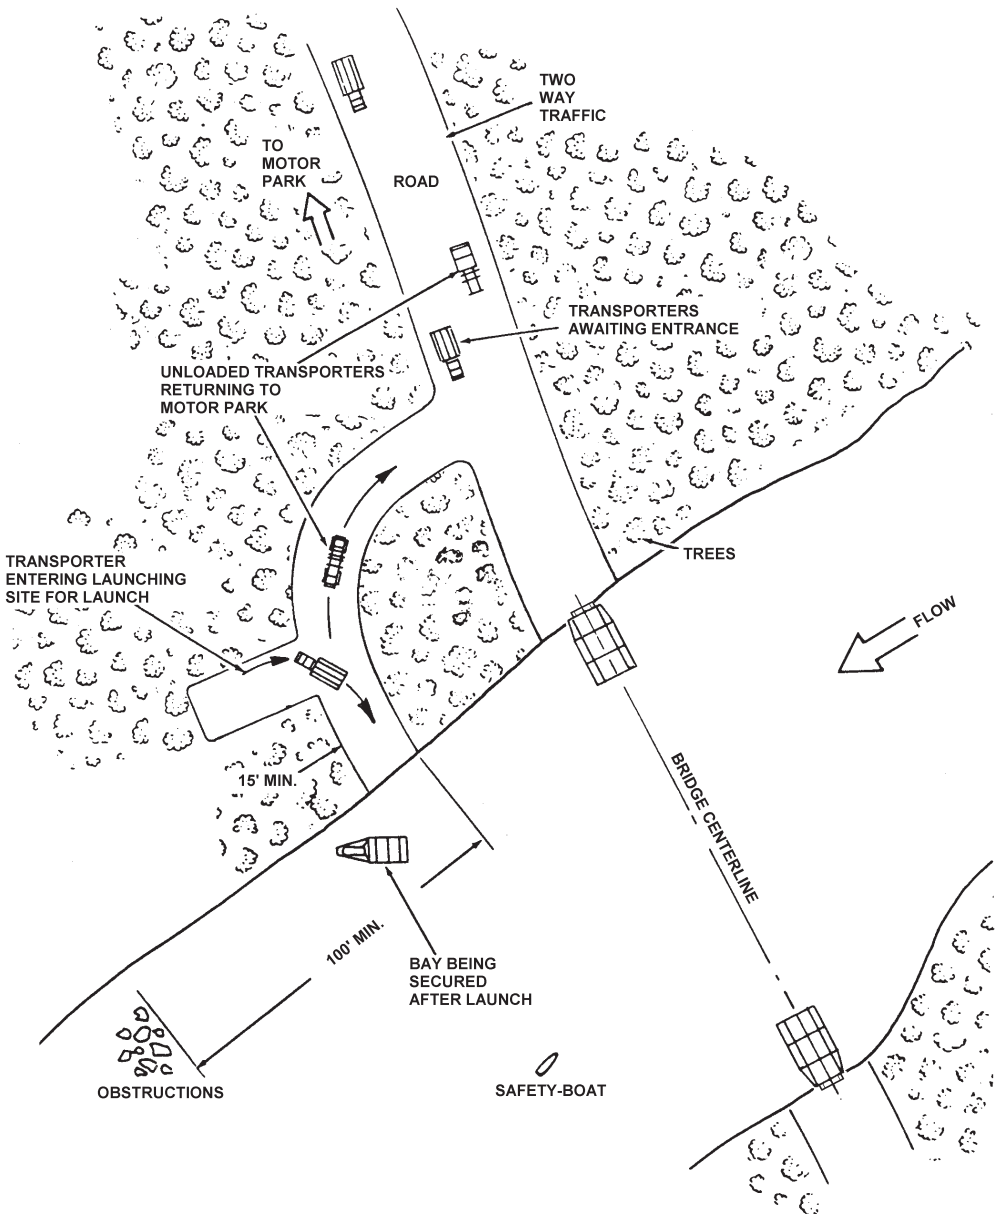

Figure 1. Bridge Assembly Site Layout for Single Launch Site (Successive Bay Assembly).
- 4. Site Layout Requirements** –Bridge and raft assembly sites require two way access roads to areas for parking, preparation of equipment, and routing of personnel and vehicle traffic. The type of bridge assembly method used will determine the location of launch and bridging sites and the location of access roads to them. Single or multi-launch sites are established depending on how quickly the advancing forces are directed to make a river crossing. When establishing a site layout, the following requirements must be met. (Refer to WP 0019 00, figures 1 through 4 for example layouts, and table 2 for bridge assembly requirements.)